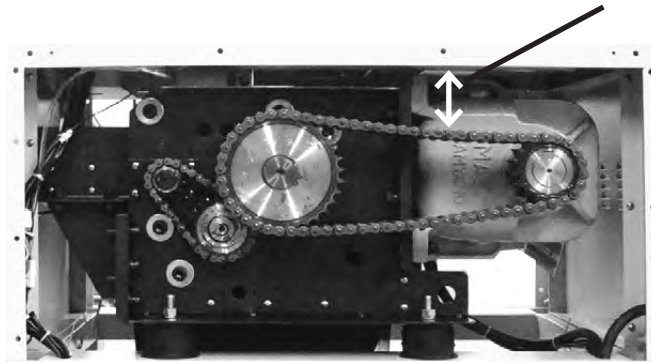

Fig. 6
3. The sagging of the chain (see Fig. 6) should be 9 - 14 mm, measured from the top inside of the frame to the cutting head chain.